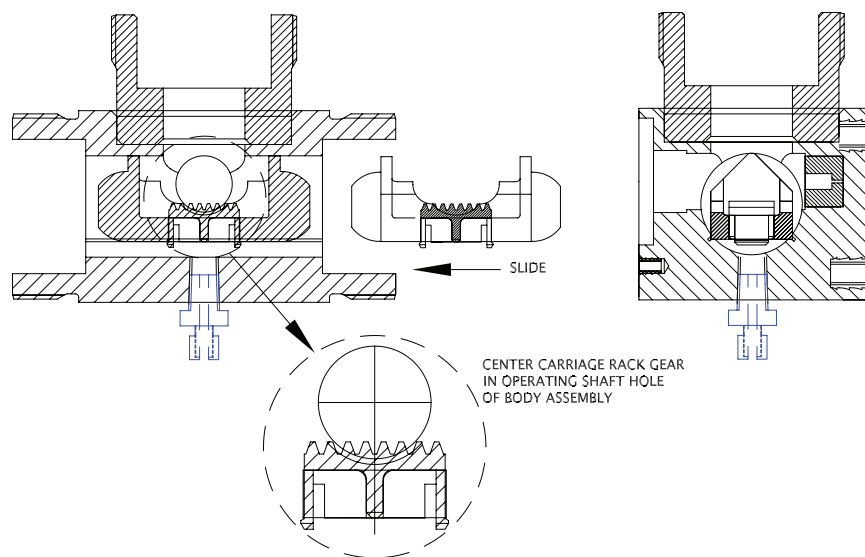

Figure 4.1 - Installing Carriage Assembly
- f. Place the assembled diaphragm piston assembly into the lower diaphragm housing (33) and line up the holes in the diaphragm (36) with the screw holes in the lower diaphragm housing. Place spring (24) on center counterbore hole of the upper piston (37). Place upper diaphragm housing (38) on top of the diaphragm, lining up the holes in the upper diaphragm housing with the holes in diaphragm. Place screws (39) into holes in the upper diaphragm housing and tighten alternately and evenly to 15in-lb of torque.
- g. Slide compression spring (24) over detent shaft (32). Insert threaded end of the detent shaft into the bore of the threaded end of the lower diaphragm housing. The male threaded end of the detent shaft should engage the threaded bore of the upper diaphragm piston (37). Tighten the detent shaft to 5in-lb of torque. Wrap male threads of tubing fitting (4) with teflon tape and screw it into the upper diaphragm housing. Tighten the tubing fitting to 15in-lb of torque.
- h. Insert the carriage assembly [consisting of rack gear (27) and carriage (28)] into the right side inlet of the body assembly (3). Line up the square body of the carriage with the slots in the bore of the body assembly (refer to Figure 4.1). Center the rack gear in the operating shaft hole of the body assembly (refer to the detail in Figure 4.1).